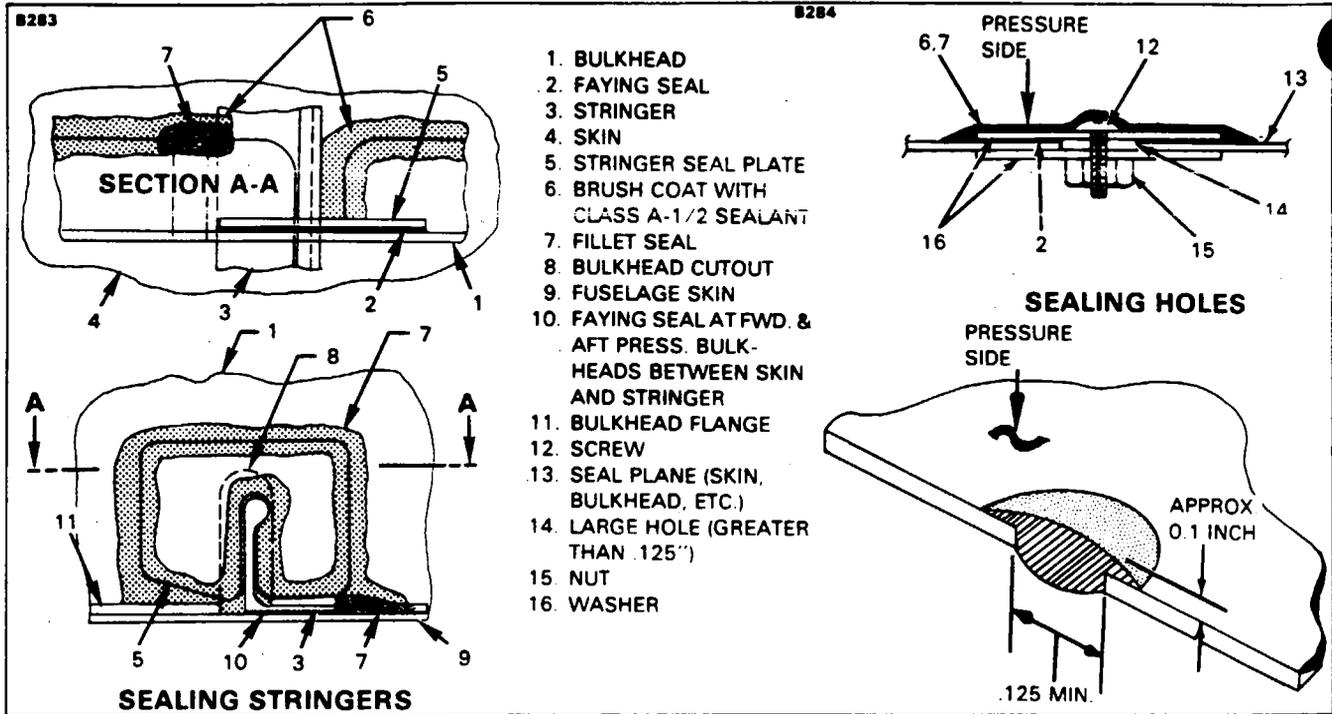

Figure 51-15. Stringers, Holes and Voids Seals
**SEALING HOLES AND VOIDS.** (Refer to Figure 51-15.)
**HOLES AND VOIDS IN (COLD) AIR DUCT WORK.** (Refer to Figure 51-15.)